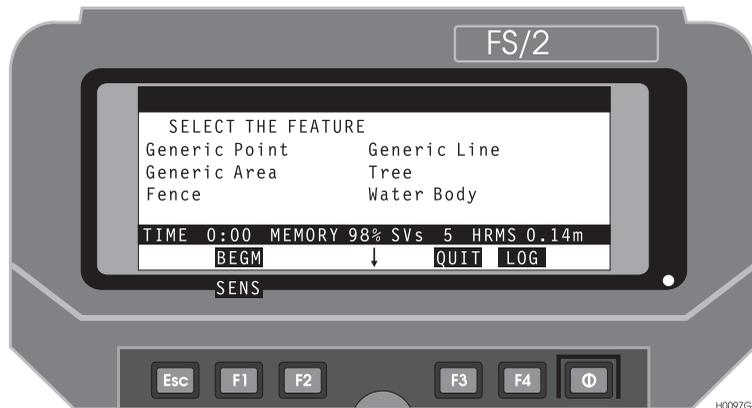

Figure 3.13: Feature Logging Screen
3. Press **F2 (FEAT)**. The Feature Logging screen appears, as shown in Figure 3.13.
2. Press **F2 (FEAT)**. The Feature Logging screen appears, Figure 3.13.
2. Press **F2 (FEAT)**. The Feature Logging (FEAT) screen appears, as shown in Figure 3.13.